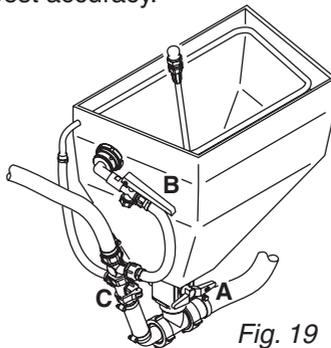

Fig. 19
7. Make sure the bottom valve **(A)** (Fig. 19) is closed on the HARDI® CHEMICAL FILLER.
11. Open the bottom valve **(A)** (Fig. 19) to transfer the chemical to the main tank.
12. If the chemical container is empty, it can be rinsed by using the Bag & Bottle Rinse (optional). Place the container over the multi-hole nozzle and press the lever **(B)** (Fig. 19).
WARNING: Do not press lever (B) (Fig. 19) unless the multi-hole nozzle is covered by a container to avoid spray liquid hitting the operator.
13. Engage the hopper rinsing device by opening valve **(C)** (Fig. 19).
14. Close valve **(C)** (Fig. 19) when the hopper is rinsed.
15. Close valve **(A)** (Fig. 19) and the chemical hopper lid. Turn the bottom black manifold valve back to MAIN TANK (if flush tank was used). Finish filling main tank with clean water to desired amount. When the spray liquid is well mixed, it may be sprayed on the crop. Leave the agitation valve at maximum agitation so the spray liquid is continuously agitated while spraying.